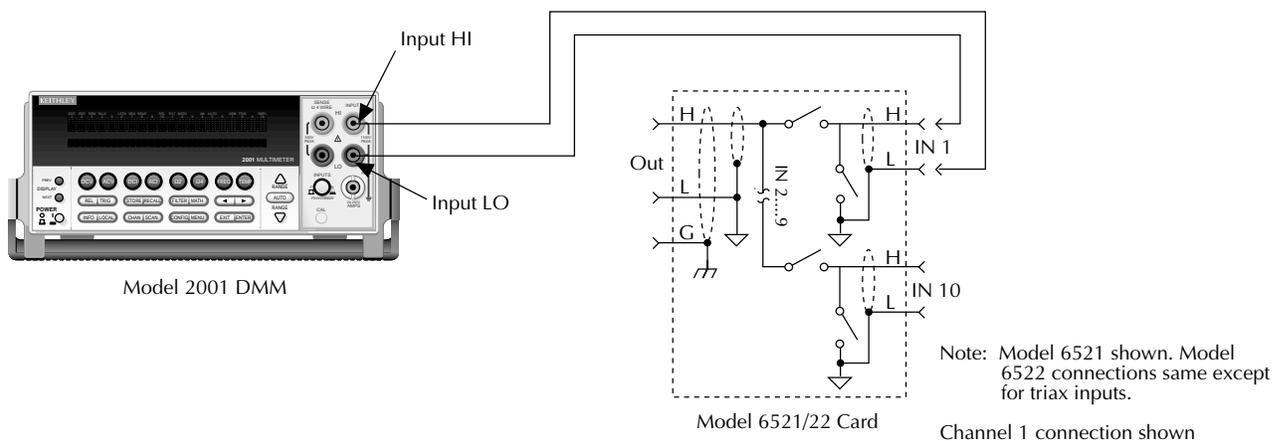

Figure 4-3
1. Connect an alligator clip lead to the HI and LO input jacks of the DMM to be used for the test. (See Figure 4-3.)
9. Connect the DMM to the HI and LO terminals of the channel 1 input jack, as shown in Figure 4-3.